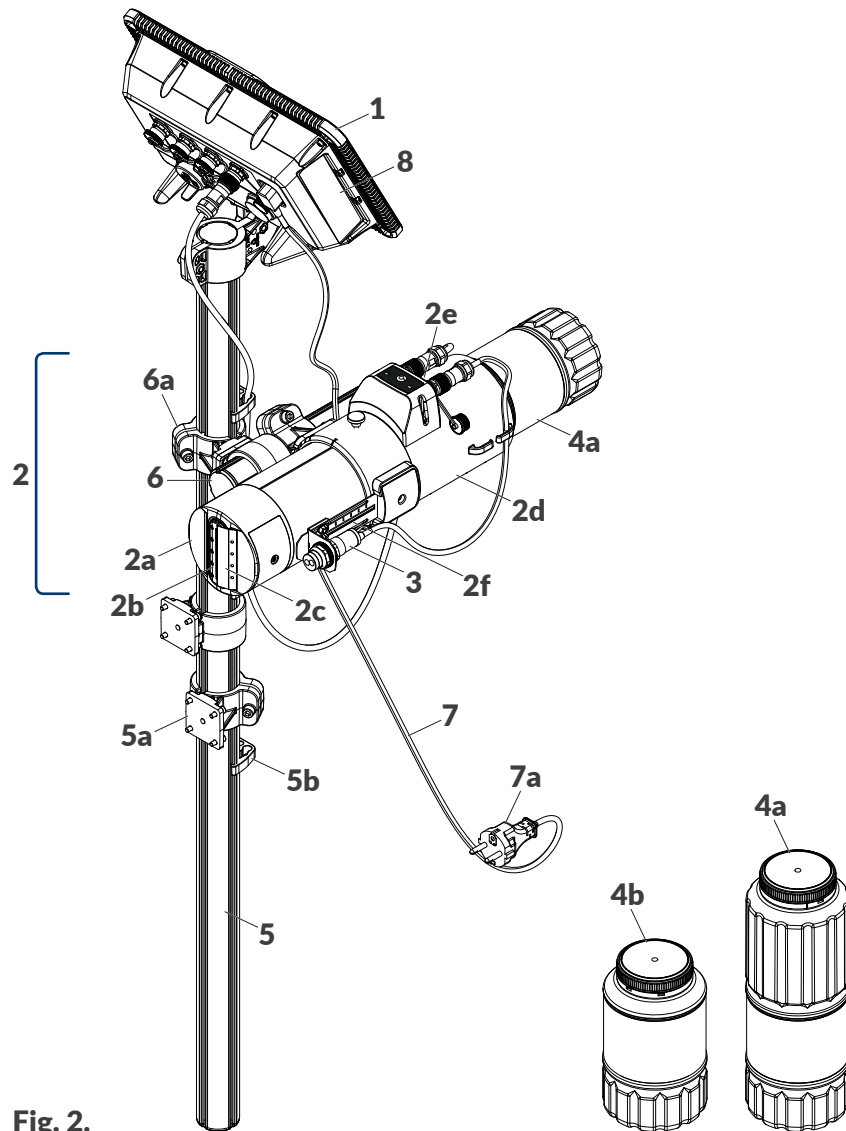

Fig. 2.
* - depending on a given country, power plug **7a** may differ from that shown in **Fig. 2** on page 14